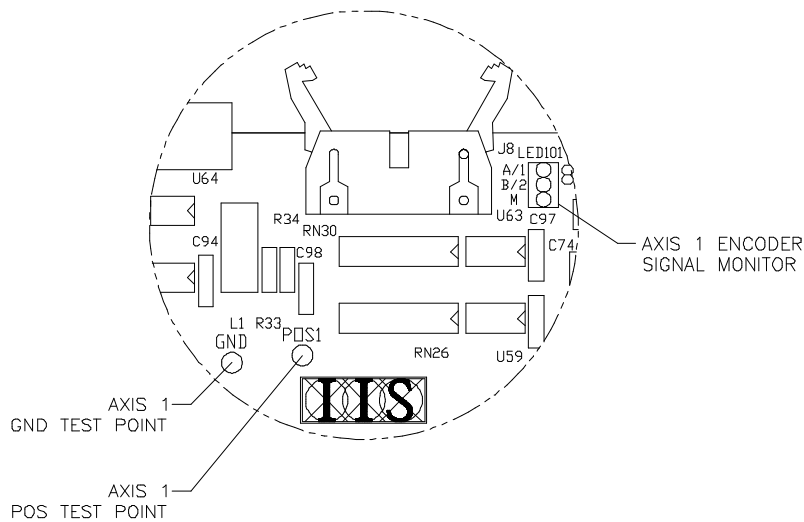
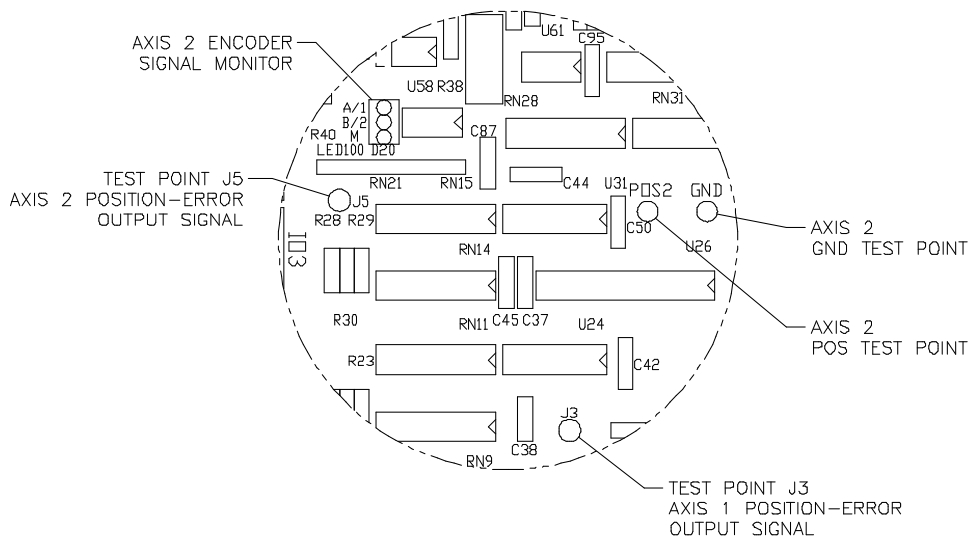

Figure 1.10 - Axis 1 Test Points and Indicators
Figure 1.11 - Axis 1 and Axis 2 Test Points and Indicators
1. POS and GND Test Points: There is one set of test points for each axis (refer to **Figure 1.10** and **Figure 1.11**). Place a meter between these test points to measure the POS OUT signal of the axis. (Refer to "Section 4 - Maintenance" for applications involving the use of these test points.)
- Encoder Signal Monitor: There is one set of three LED encoder signal indicators for each axis (refer to **Figure 1.10** and **Figure 1.11**). One LED is assigned to each channel of the encoder and illuminates each time the channel generates a pulse. The quadrature channels (1 and 2) will flash very rapidly while the encoder shaft is turning. The indicator for the marker channel will flash once per encoder-shaft revolution.
3. Position-error Output Signal: One test point for measuring the following error is provided for each axis (refer to **Figure 1.11**). J3 is the test point for axis 1 and J5 is the test point for axis 2. (Refer to "Section 4 - Maintenance" for applications involving the use of these test points.)